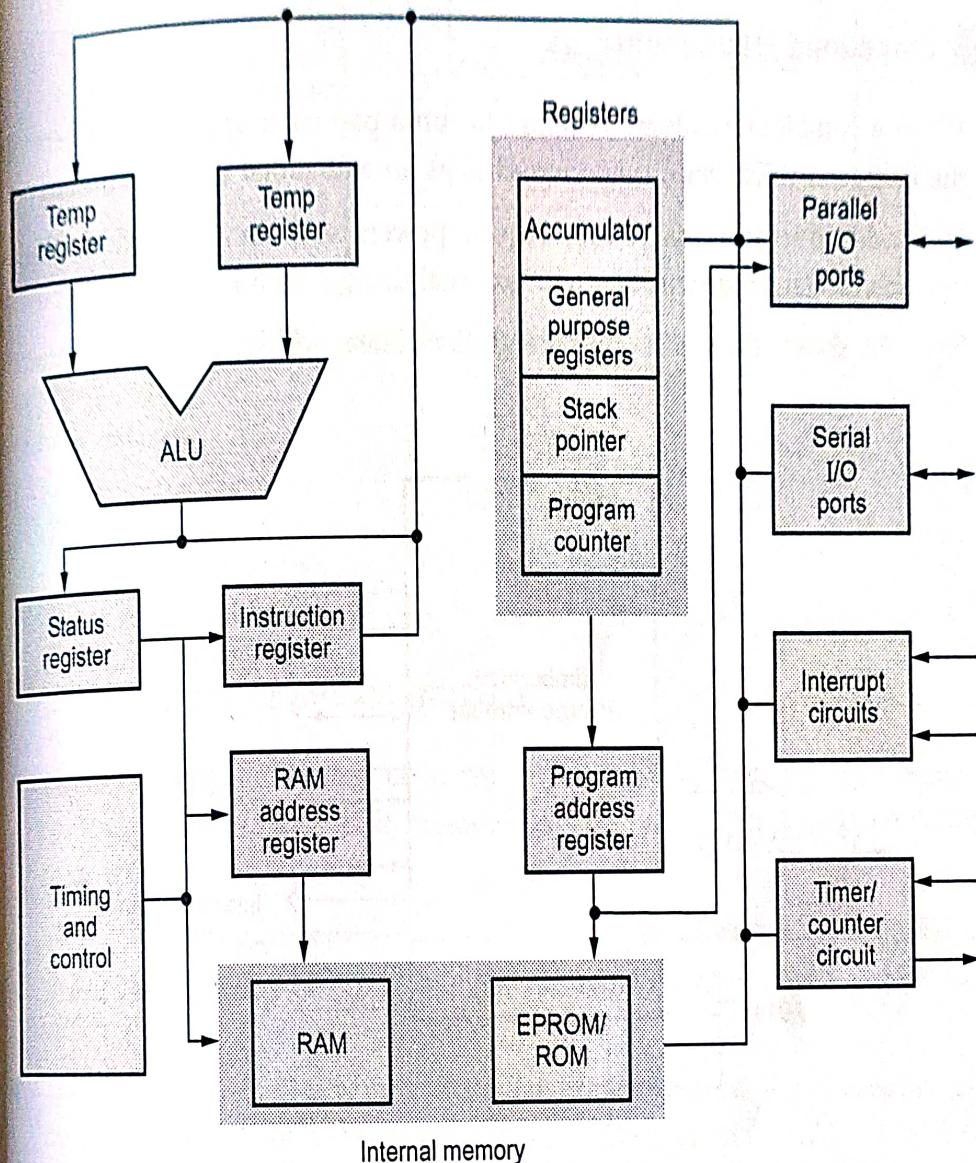

Fig. 1.1.2 Block diagram of microcontroller
- Fig. 1.1.2 shows the simplified block diagram of a microcontroller. As shown in the Fig. 1.1.2, the microcontroller has on-chip (built-in) peripheral devices.